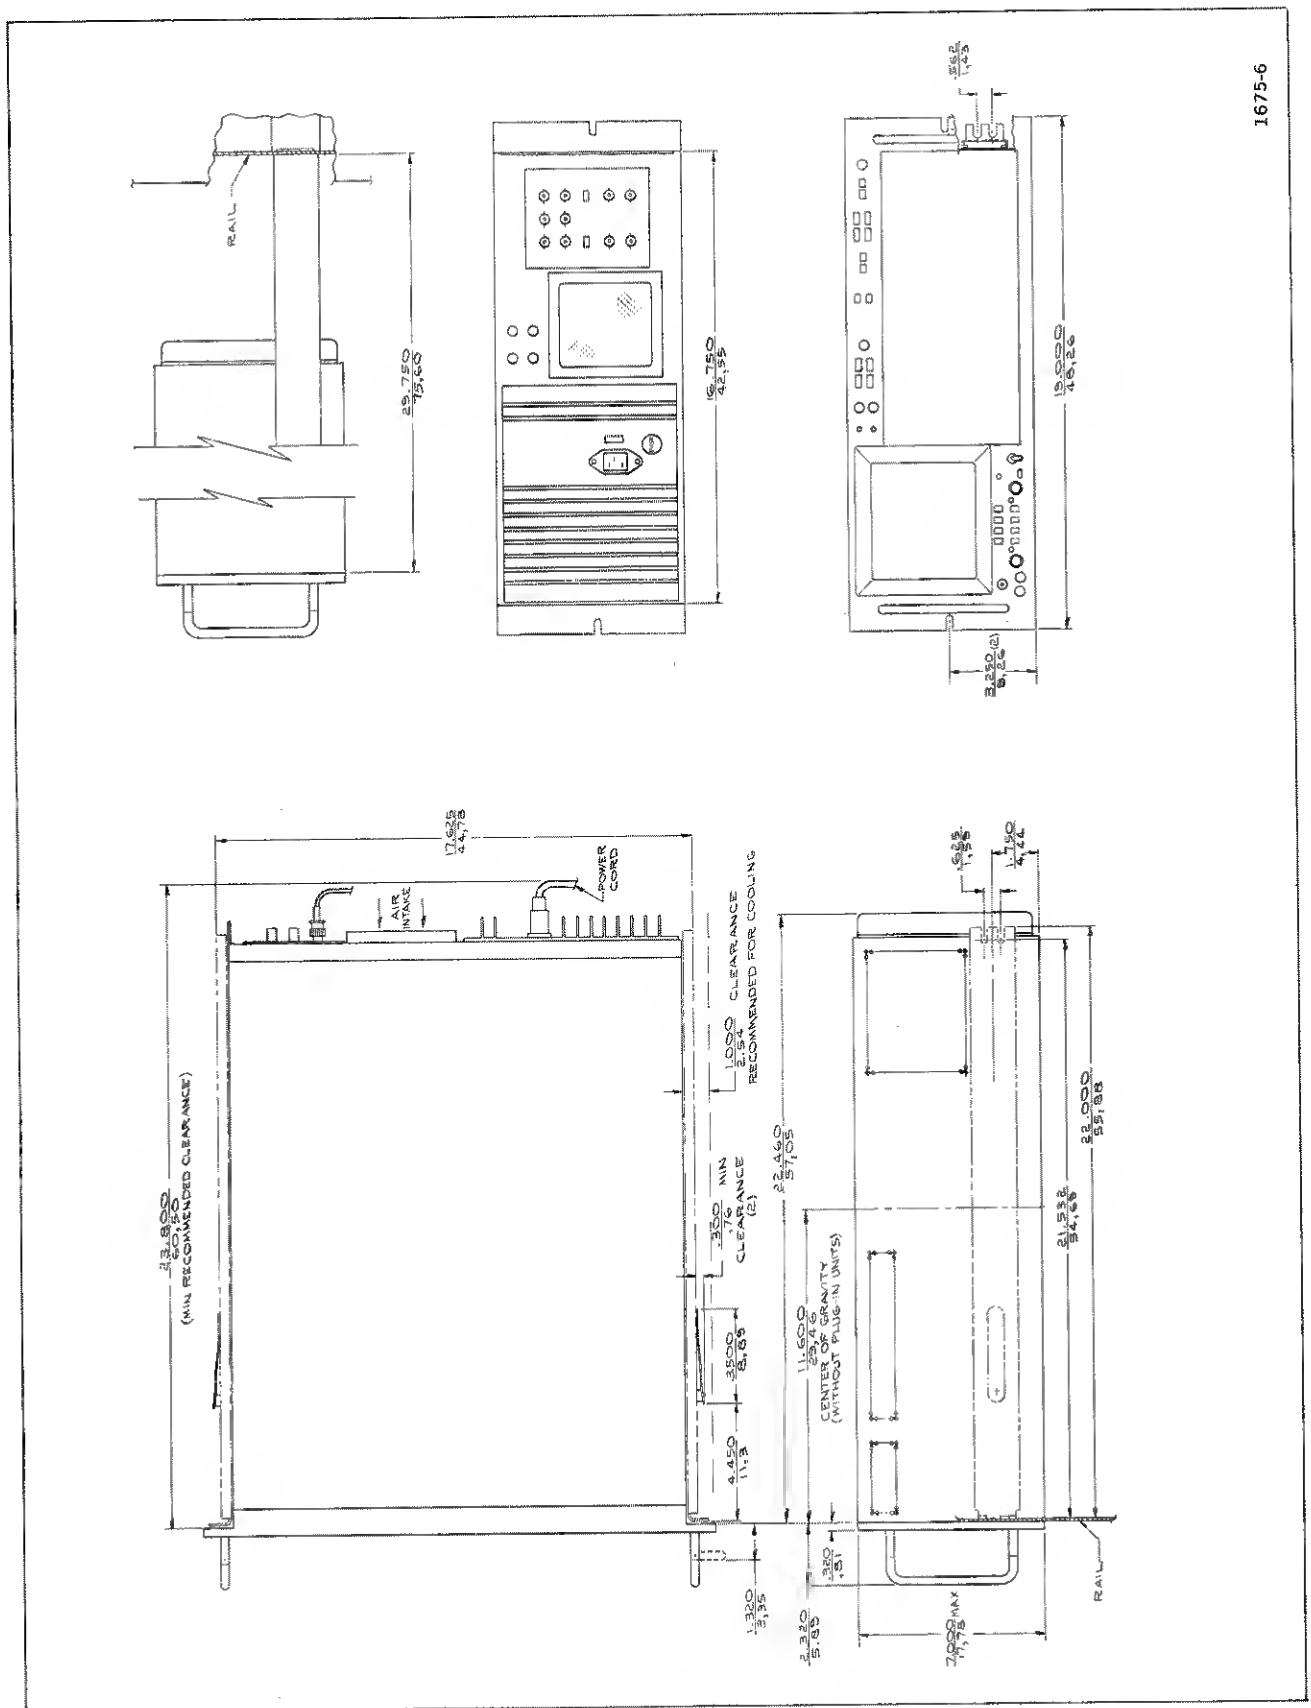

Fig. 3-6. R7844 dimensional drawing.
*See Fig. 2-1 for 7844 dimensional drawing. Refer to Fig. 3-6, in Section 3 for the R7844 dimensional drawing.*
A drawing showing the major dimensions of the R7844 is shown in Fig. 3-6.